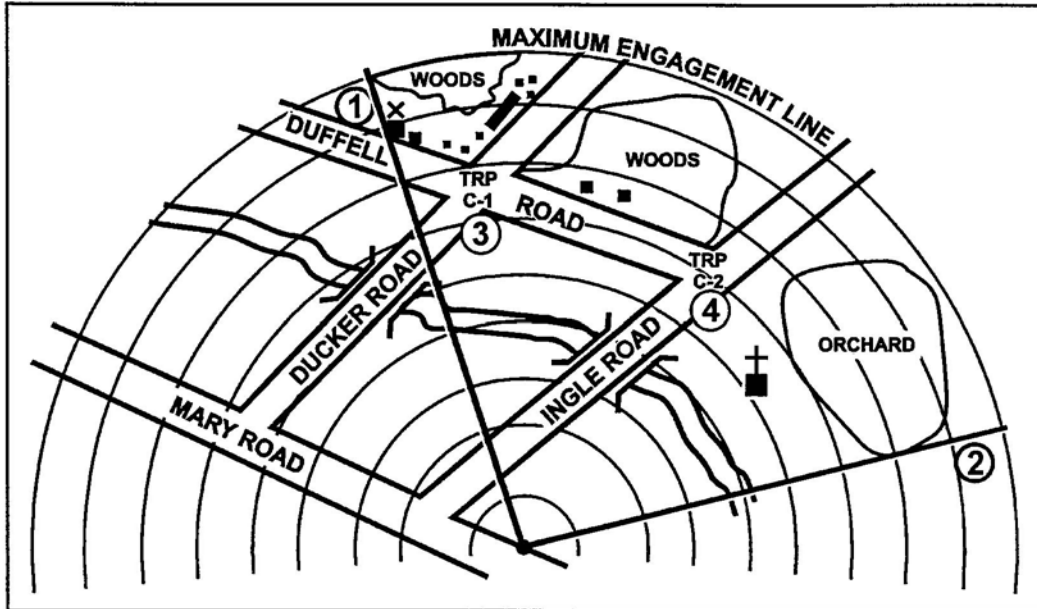

Figure 5. Target reference points.
- d. Target reference points. Place the TRP numbers(s) on the range card (Figure 5) and number them from left to right, beginning with the number "3."